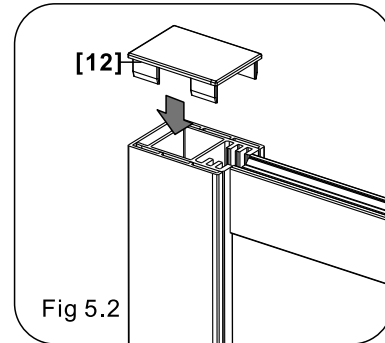

Fig 5.2
1. Install the **Covers [12]** to the top corners as figure shows. (Fig 5.2, Fig5.3)